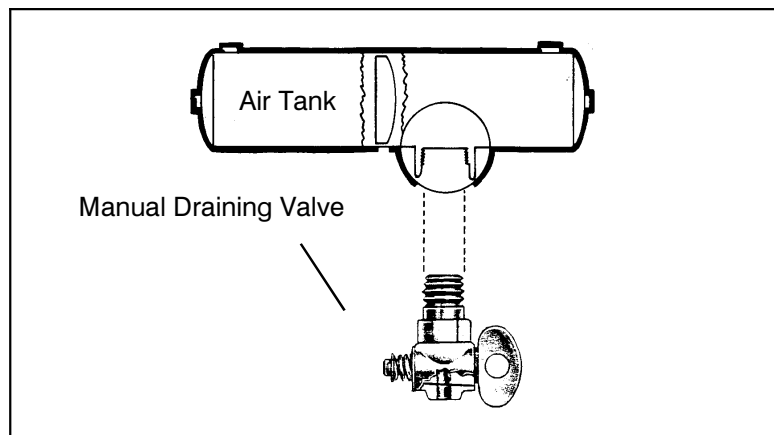

Figure 5-1
- Manual--the water and oil is manually expelled by turning the valve quarter turn, shown in Figure 5-1, or by pulling a cable. You must drain the tanks yourself at the end of each day of driving.